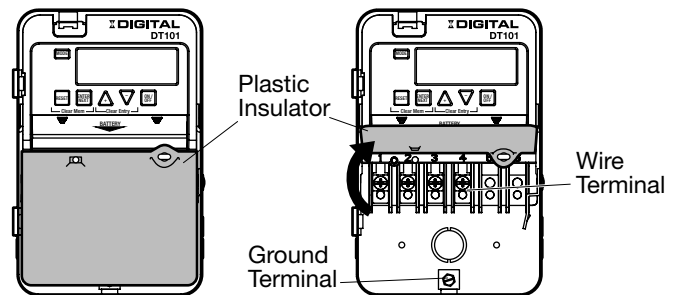

FIG. 4 Plastic Insulator and Wire Terminals
1. Lift the left side of the plastic insulator off the retaining post and pivot it up and away to expose the terminal strip. See FIG. 4.
4. Connect the ground wire to the grounding terminal at the bottom of the enclosure. See FIG. 4.